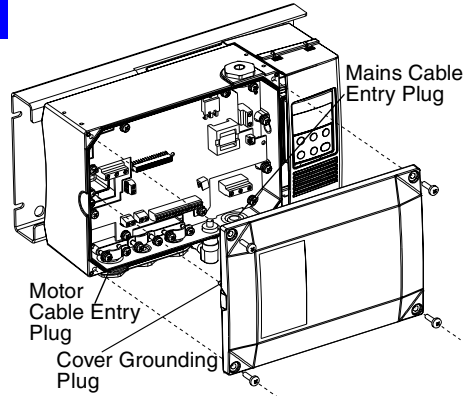

Figure 1
- Remove the plugs from the necessary cable entries, see Figure 1.
REPLACE THE CONVERTER COVER. (Make sure the grounding plug of the converter is inserted in its place, see Figure 1, and tighten the four screws.)